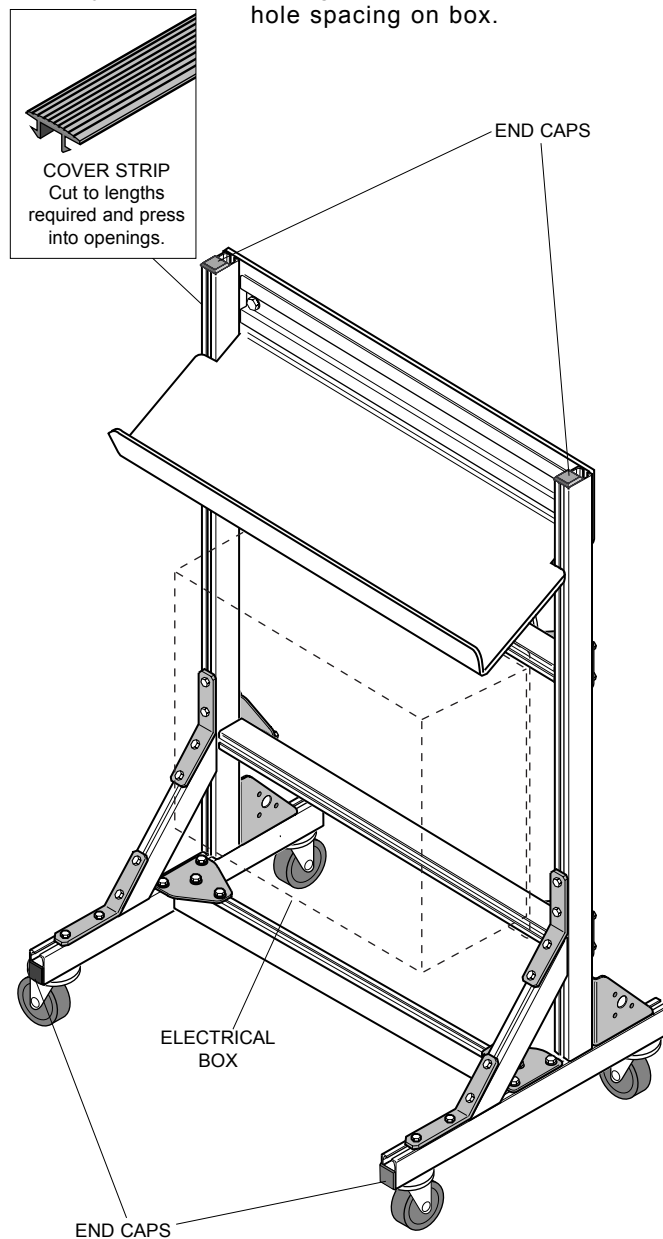

Figure 11.
13. Install end caps and cover strip (Fig 11).
15. Hang electrical box on cross members using **E-Z NUTS**, supplied (Fig 11). If necessary, adjust vertical spacing of cross members to fit hole spacing on box.